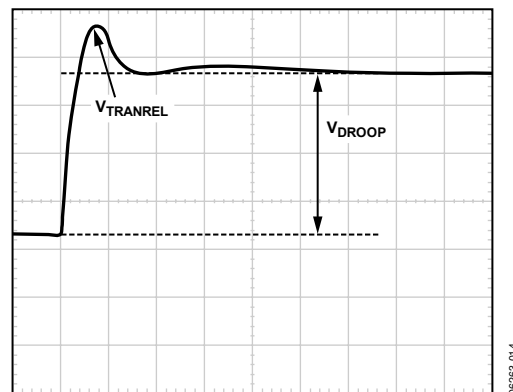

Figure 17. Transient Setting Waveform
20. For load release (see Figure 17), if $V_{TRANREL}$ is larger than the allowed overshoot, there is not enough output capacitance. Either more capacitance is needed, or the inductor values need to be made smaller. When changing inductors, start the design again using a spreadsheet and this tuning procedure.